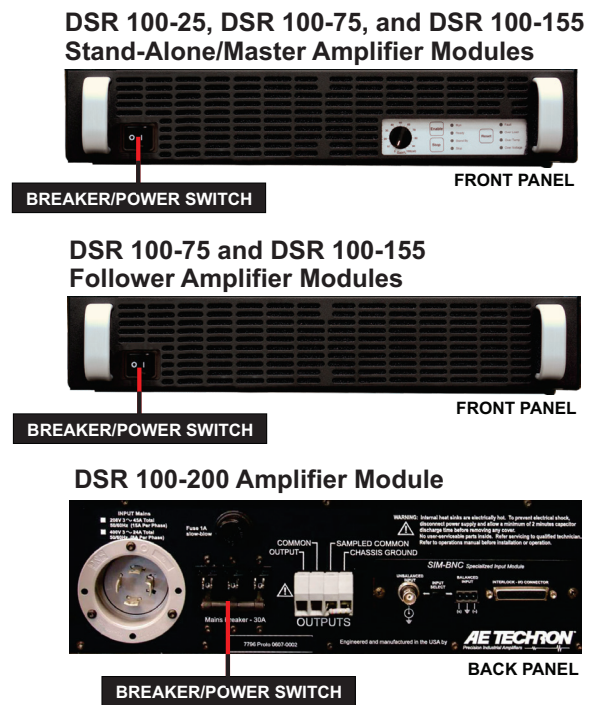

Figure 5.1 – Amplifier Modules’ Breaker/Power Switch Locations
**A:** Check the breaker/power switches on all amplifier modules to make sure they are in the on position. See **Figure 5.1**.